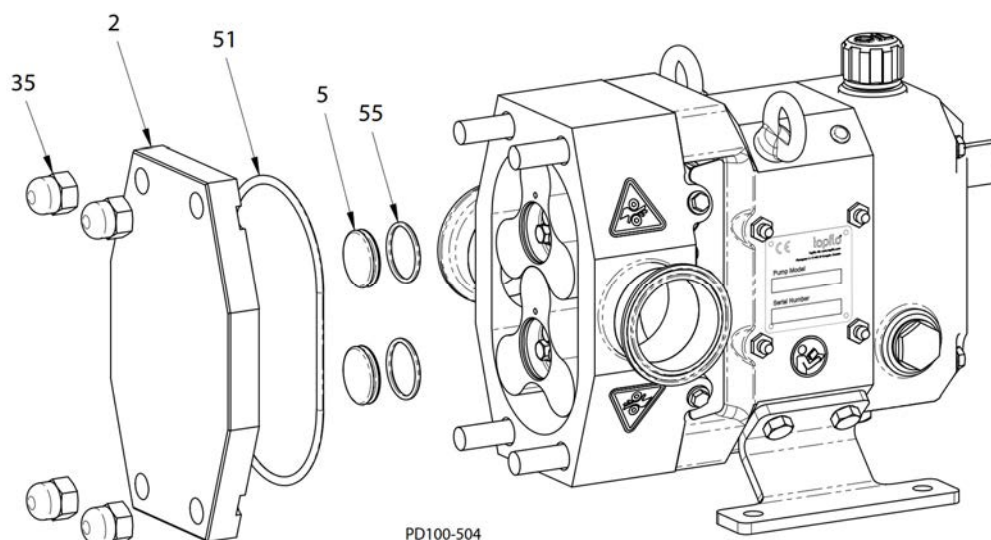

Fig. 66: Cover Installation
1. Install the screw cap O-ring (Figure 66, item 55) into the groove in the screw cap (item 5) and install it in the rotor bore. The O-ring snaps into the groove in the rotor bore.
2. Install the cover O-ring (item 51) into the groove in the cover.